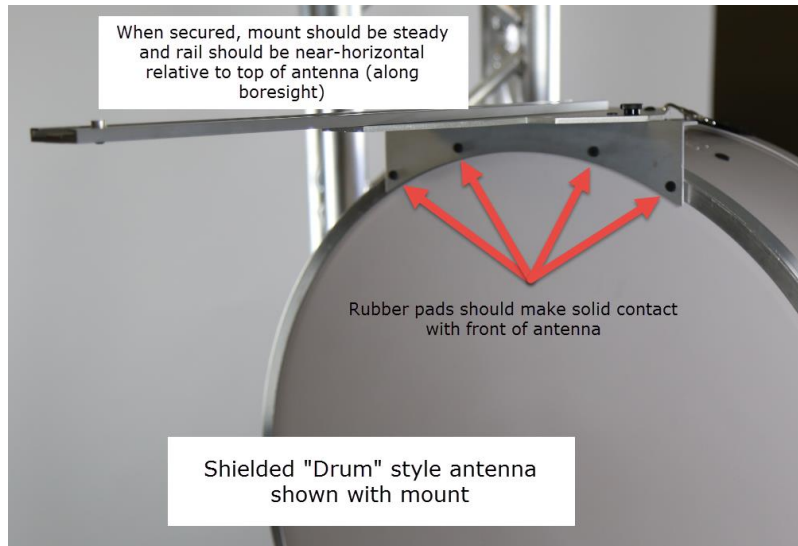
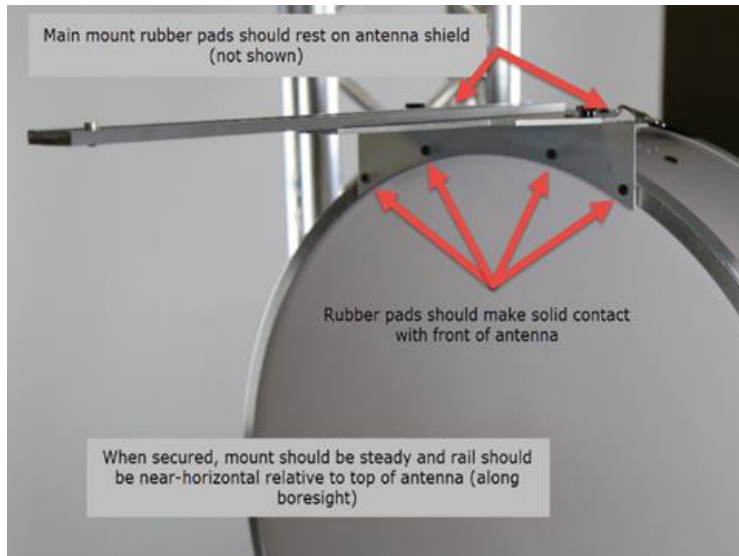

Figure 3
Figure 7
- 3) Ensure the mount is secured to the antenna, adjust the straps, and ensure the sliding rail is approximately level as it is extended in front of the antenna (not drooping or pointing to the sky). The mount should be very stable once secured. *See Figure 3, Figure 6 & Figure 7*
- 6) Make sure mount is approximately horizontal in reference to the antenna. See Figure 7
- 5) Verify mount is approximately horizontal in reference to the antenna. **See Figure 7, 8 & 10**
- 5) Verify mount is approximately horizontal in reference to the antenna. *See Figure 7, 8 & 10*